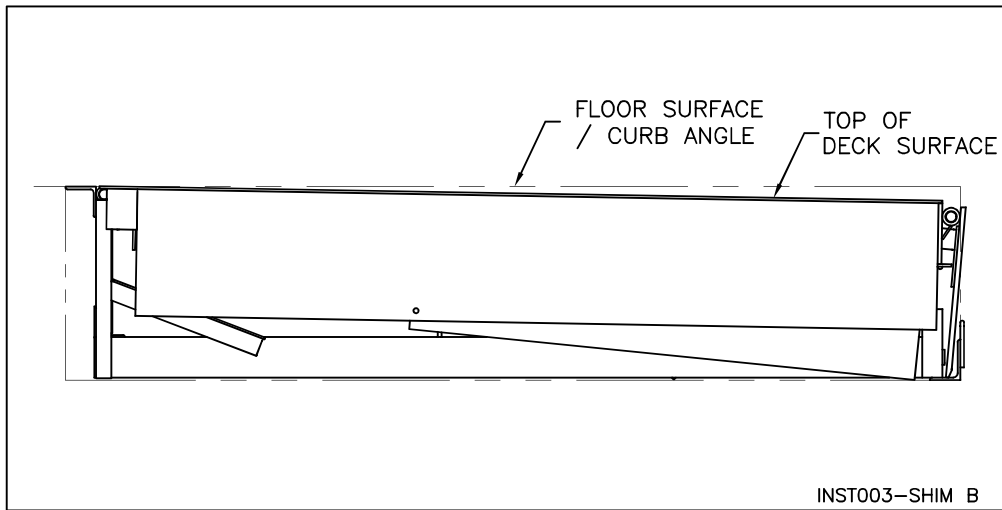
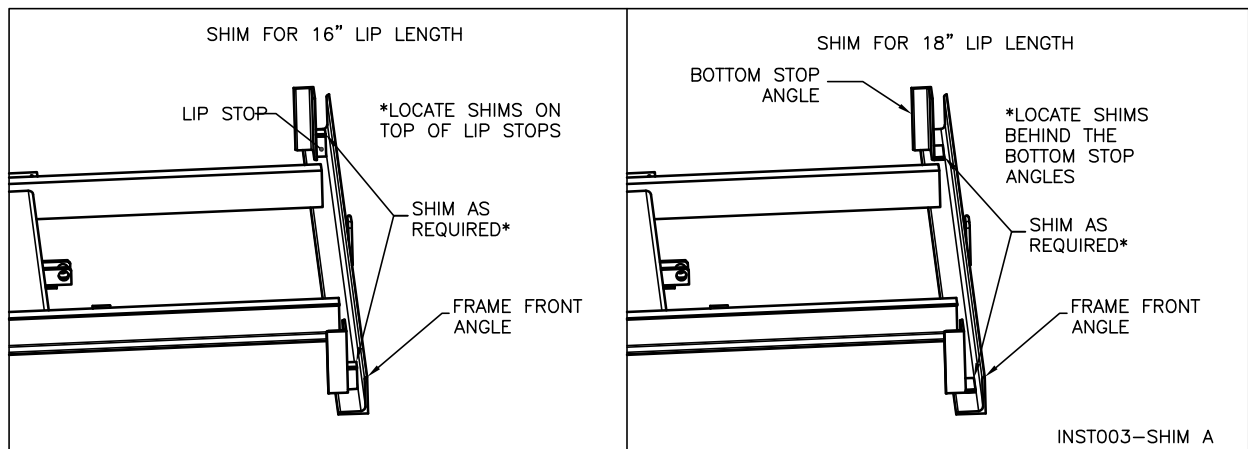
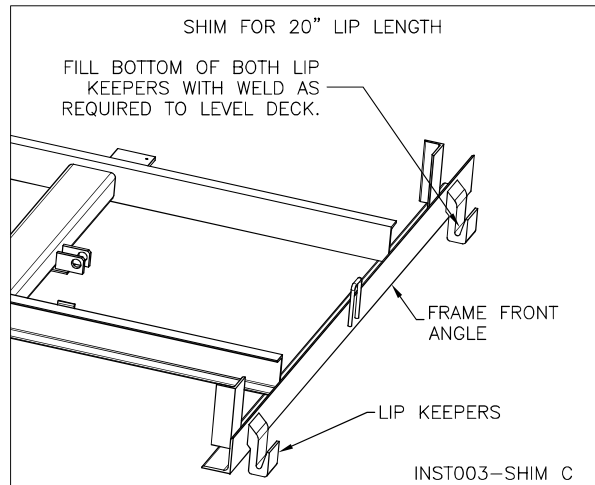

Figure 40: Deck Alignment
Figure 41: Shimming 16" & 18" Lips
Figure 41A: Shimming 20" Lips
13. For any model of hydraulic dock leveler, review the position of the top edge dock leveler deck relative to the top of the curb angle (See “Figure 40: Deck Alignment” on page 35). If the deck is too low in relation to the installation requirements, shim the dock leveler using steel shim(s) on both sides as indicated in “Figure 41: Shimming 16” & 18” Lips” on page 35 and in “Figure 41A: Shimming 20” Lips” on page 35.